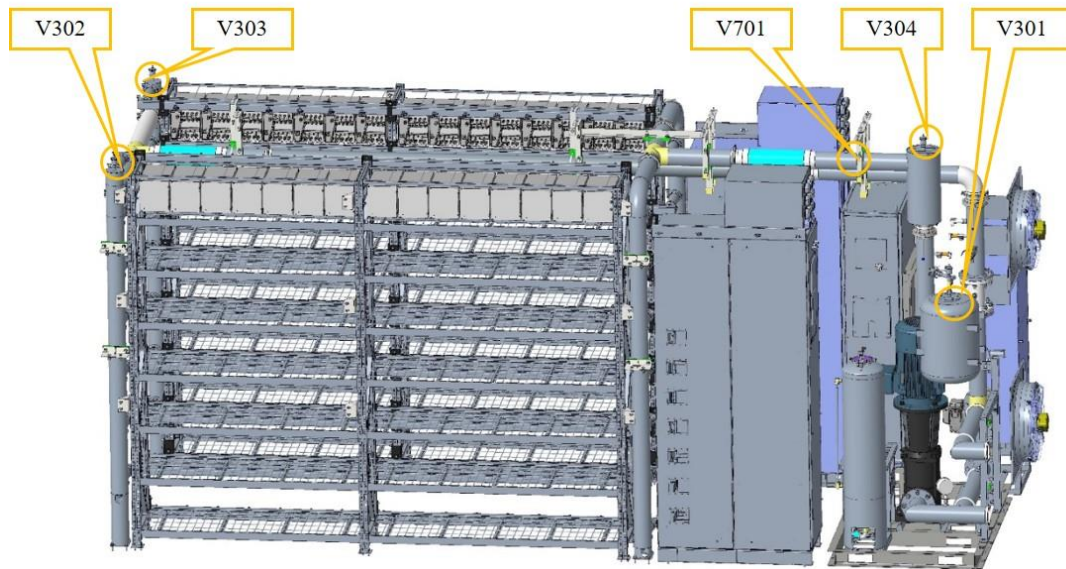
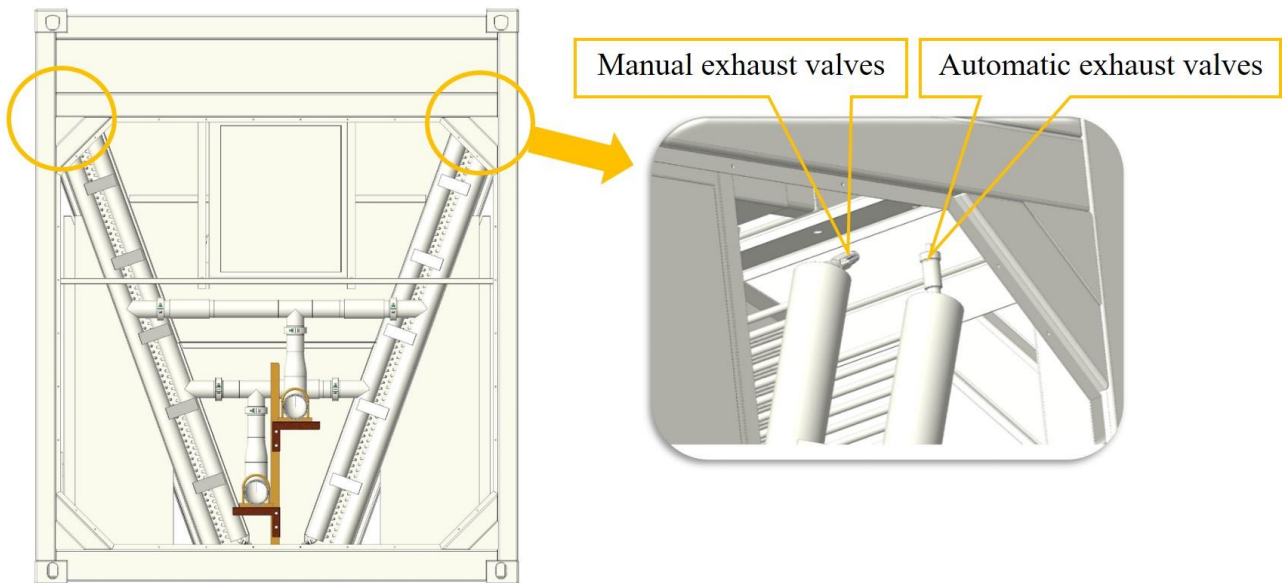

Figure 7.3 Location of the exhaust valve in container system.
Figure 7.8 Dry tower exhaust valve position.
- pipelines of the container are open (see Figure 7.3 and Figure 7.8)